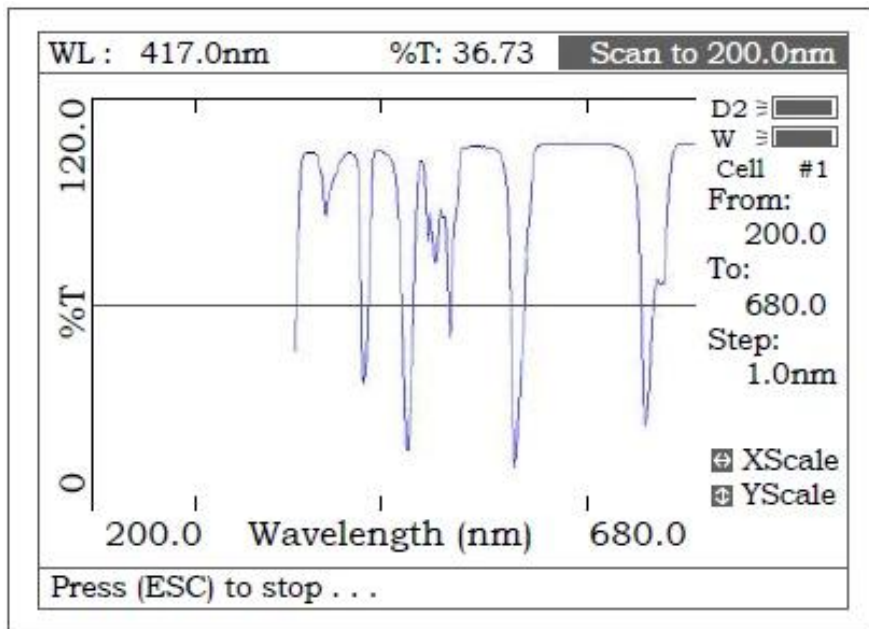
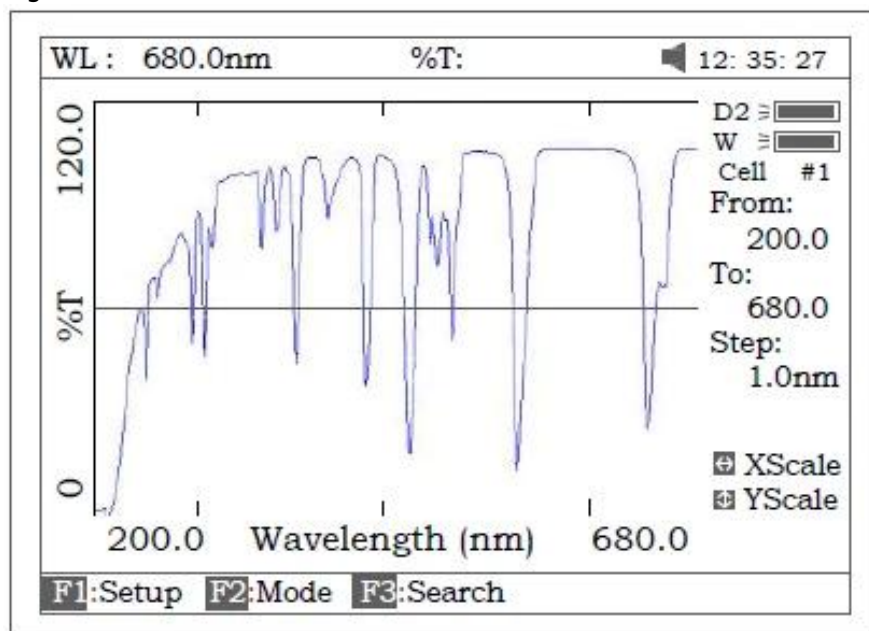

Figure 45
Figure 46
4. Put the sample cuvette into Main Light Path, press **【START】** to scan the sample(Fig 45) **【ESC/STOP】** to stop scanning. When scan has finished the beeper beeps 3 times (Fig 46).
Note: The report always is printed in Fig 46